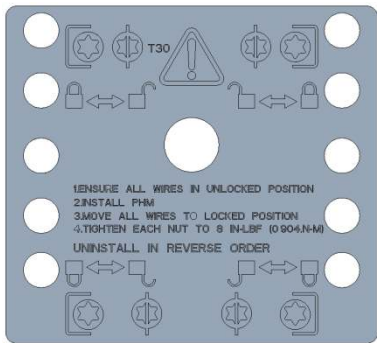

Figure 5
5.Before assembling PHM on bolster plate, follow the sticker instructions to ensure all wires are in unlocked position. Install PHM on bolster plate, and move all wires to locked position, then use Torx T30 screwdriver to tighten each nut of 8 LBF-IN (0.904 N-M) (Figure 5 & 6)